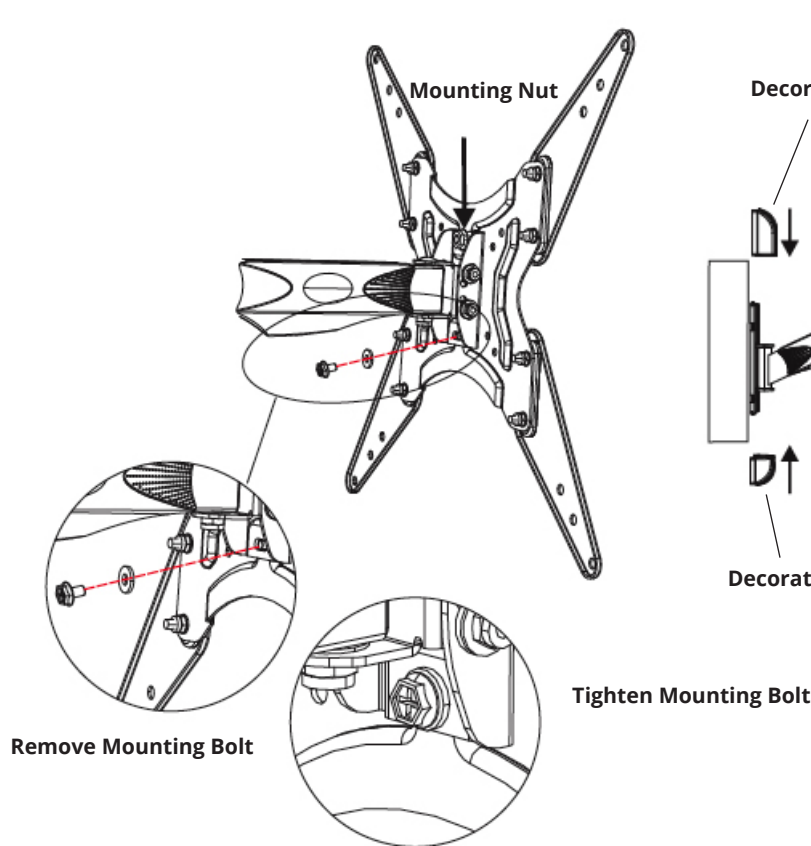

Figure 6
1. Loosen the **Mounting Nut** using a wrench (not included), and remove the **Mounting Bolt** using a Phillips screwdriver from the TV with VESA Plate assembly, see **Figure 6**.
3. Replace the mounting bolt removed earlier, then tighten both mounting nut and mounting bolt by turning them clockwise until fully tight to secure the TV with VESA plate assembly to the extension arm, see **Figure 6**.